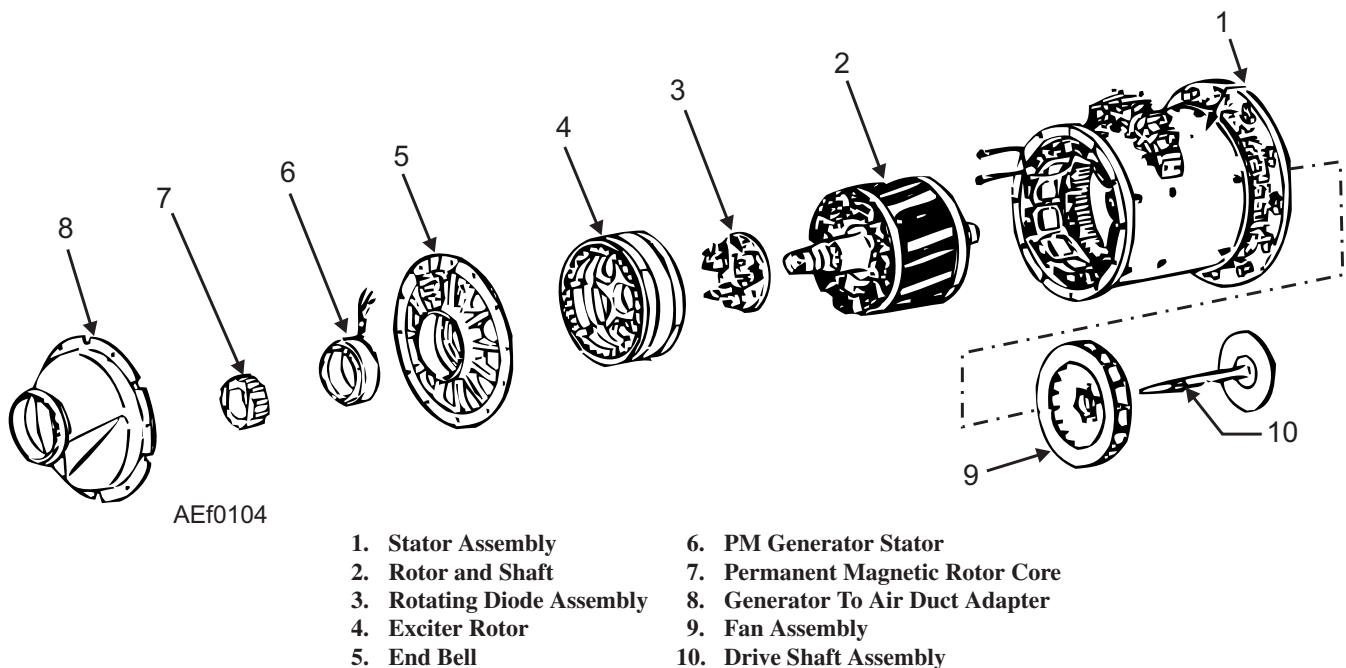

Figure 1-4.—Disassembled brushless ac generator.
**BRUSHLESS-TYPE.**—Most naval aircraft are using brushless generators for voltage generation. The advantage of a brushless generator over a brush-type is its increased reliability and greater operating time between overhaul. Figure 1-4 is an expanded view of the main assembly of a brushless generator.
The brushless generator shown in figure 1-4 is a salient 8-pole, 6,000-rpm, ac generator. It has a 12-pole ac exciter and a three-phase, half-wave diode rectifier rotating with the exciter armature and main generator field assembly. The exciter rotor is a hollow frame assembly with the main ac field mounted on the inside and connected to a common drive shaft. A single-phase permanent magnet generator (PMG) furnishes control voltage and power for the voltage regulator. Three half-wave rectifiers are on the exciter rotor and connected to the exciter armature windings. A generator shaft shear section prevents possible damage to the engine or drive unit if the generator seizes. A fan at the drive end of the generator provides cooling airflow for the rotor and stator windings and the drive bearings. The end bell not only holds the generator